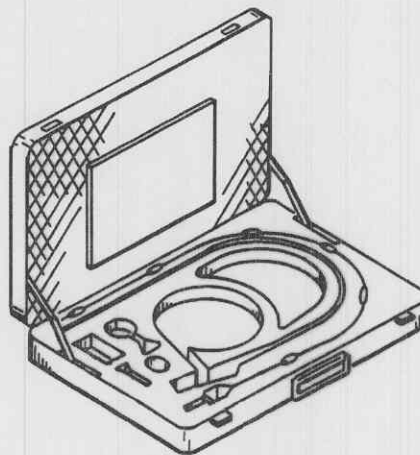

Figure 1-2. Case.
(1) *Case (fig 1-2).* The high impact plastic "briefcase" incorporates a hinged lid, two latches, and a movable carrying handle. The case includes a foam insert with cutouts to store the fiberoptic bronchoscope and its components/accessories.